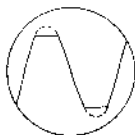

Fig. 21 Waveform when the dummy load resistor is 2.7Ω
- At this condition, set dummy load resistor switch to "2.7Ω" position and turn operating point adjustment semi-fixed resistor VR-4 counter-clockwise to the point at which the output waveform is erased and from this point, turn clockwise again about 20° from erased point. With a 2.7Ω dummy load resistor, the waveform will appear as shown in Fig. 21.